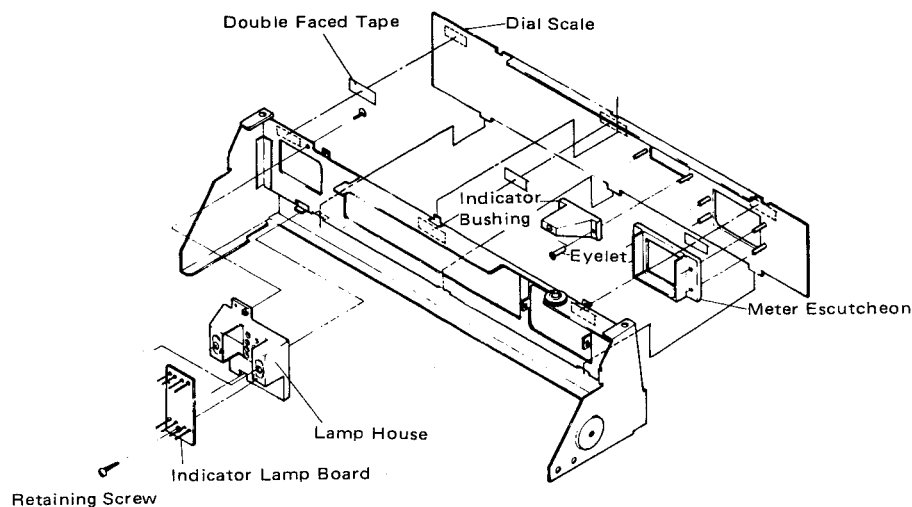

Fig. 5
3. To replace Dial Scale, refer to Fig. 5.